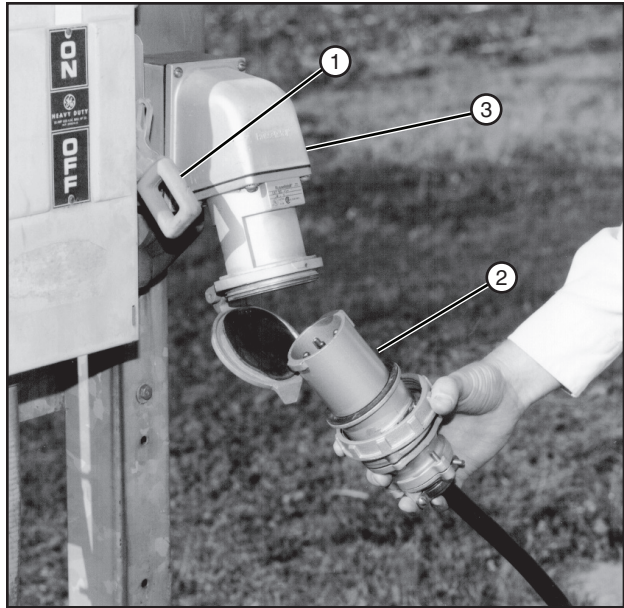

Figure 56-1 1. Service Disconnect-OFF
5. With the service disconnect in the OFF position, unplug the power plug from the receptacle. See Figure 56-1.